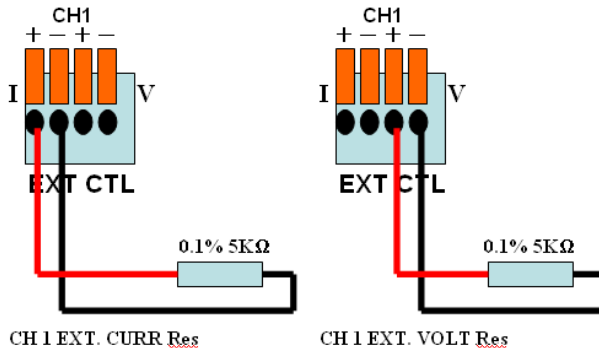

Figure 37- External Resistance Control Calibration setup (left) Current (right) Voltage
5. To begin calibration with the external resistor, remove the DC source and connect the precision resistor to the control card, as shown in Figure 37(right) below.
7. Once finished, **CH1 EXT. CURR Res** will be selected. Connect the precision resistor as shown in Figure 37(left). Press to proceed with the calibration.